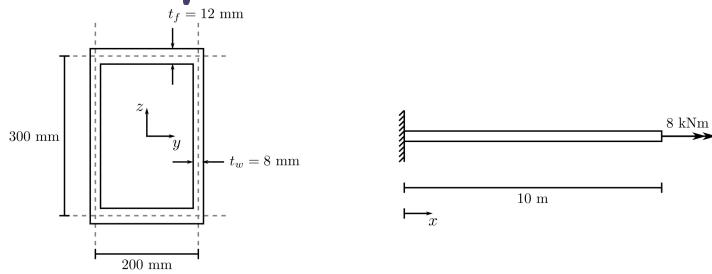

Figure 3.5: Box section twisting worked example.
- 1 The cantilever shown in Figure 3.5 is constructed from a steel box section. Material properties for steel may be taken as \$E = 205 \text{ GPa}\$ and \$\nu = 0.3\$. For the applied loading shown determine: